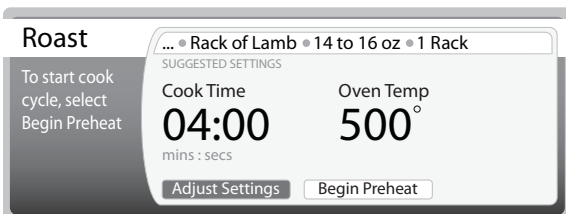

Figure 2.3: Adjusting Recipe Settings
1. From MODE 3, select "Adjust Settings" (Figure 2.3).